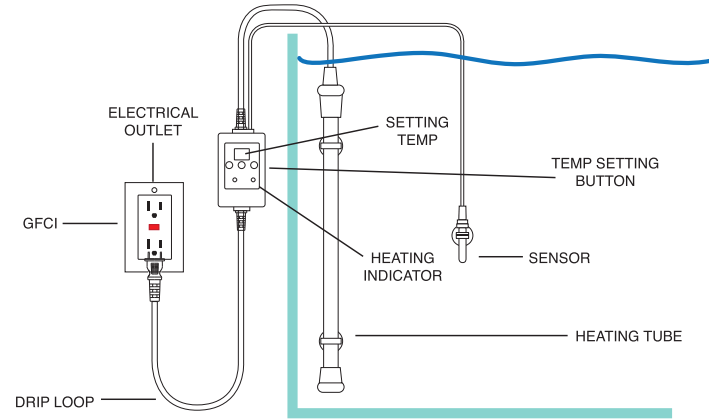

Fig.1
2. A drip loop must be used with all electrical aquarium devices. A drip loop is a self-made part of the cord hanging below the receptacle. (See Fig.1).
6. Create a drip loop. Then plug the heater into an electrical outlet (Fig.1).